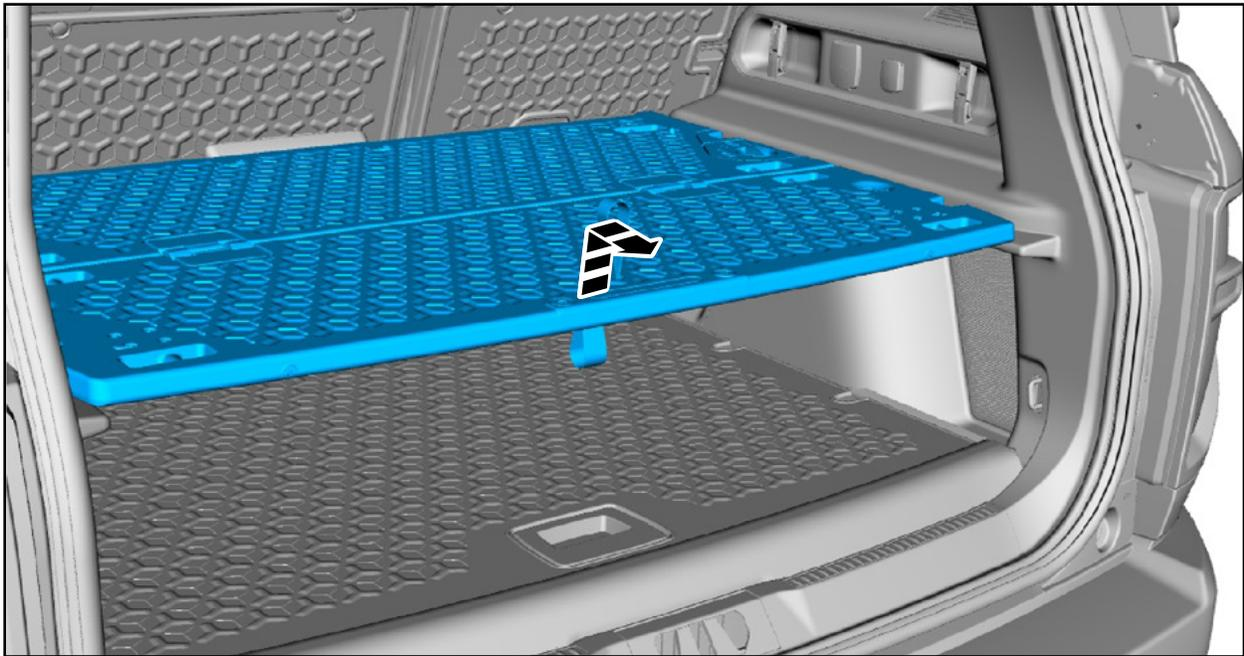

FIGURE 14
14. If equipped, remove the luggage compartment package cover. See Figure 14.